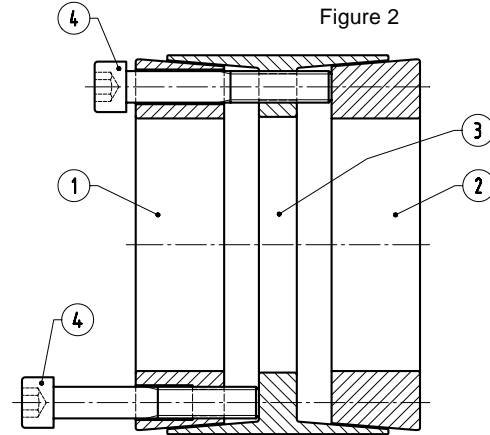

Figure 2
2. Loosen all locking screws by a minimum of four (4) turns and transfer at least two (2) screws to push-off threads in clamp collar Item 1 to disengage this part from center collar Item 3. Similarly, transfer at least two (2) screws to push-off threads in center collar Item 3 to disengage this part from clamp collar Item 2 (see Figure 2).
(Refer to Figure 2)
2. Remove all locking screws. Transfer required number of screws into all push-off threads of clamp collar Item 1 (see Figure 2).
4. Transfer locking screws used for dismounting of clamp collar Item 1 into all push-off threads in center collar Item 3 (see Figure 2). Release clamp collar Item 2 by repeating procedures outlined in Step 3.